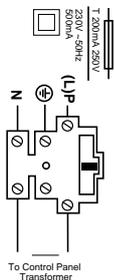

Figure 7. Mains Connection
2. Connect the mains cable as shown in Figure 7 below.